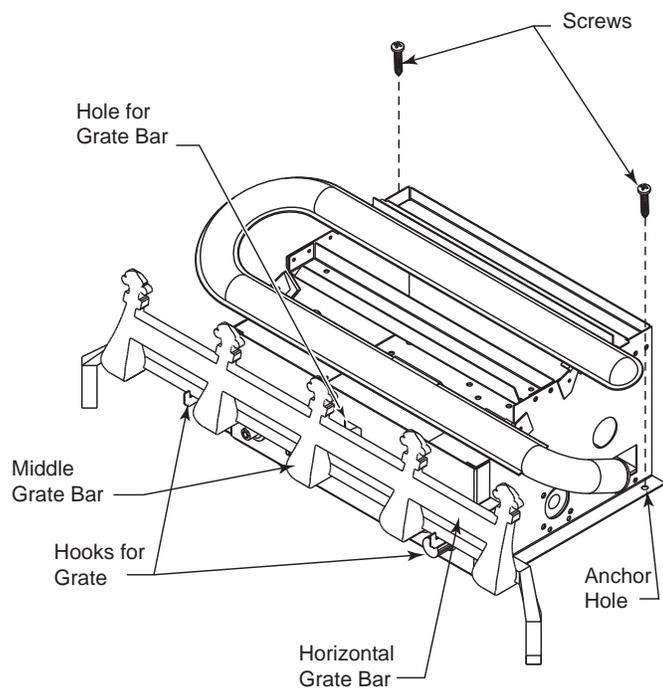

Figure 11 -
2. Install Grate: Insert longest middle grate bar in one of the two square holes in control panel. *Figure 11*. Be sure grate is centered. Sit horizontal bar inside two hooks on front of control panel. *Figure 11*. Make certain front feet of grate are located inside front edge of fireplace or firebox.
3. Anchor holes are located on the flange of the unit. *Figure 11*. After centering the burner correctly, mark the hole positions on the fireplace/firebox floor. Drill two (2) 5/32" diameter holes approximately 1 1/2" deep.